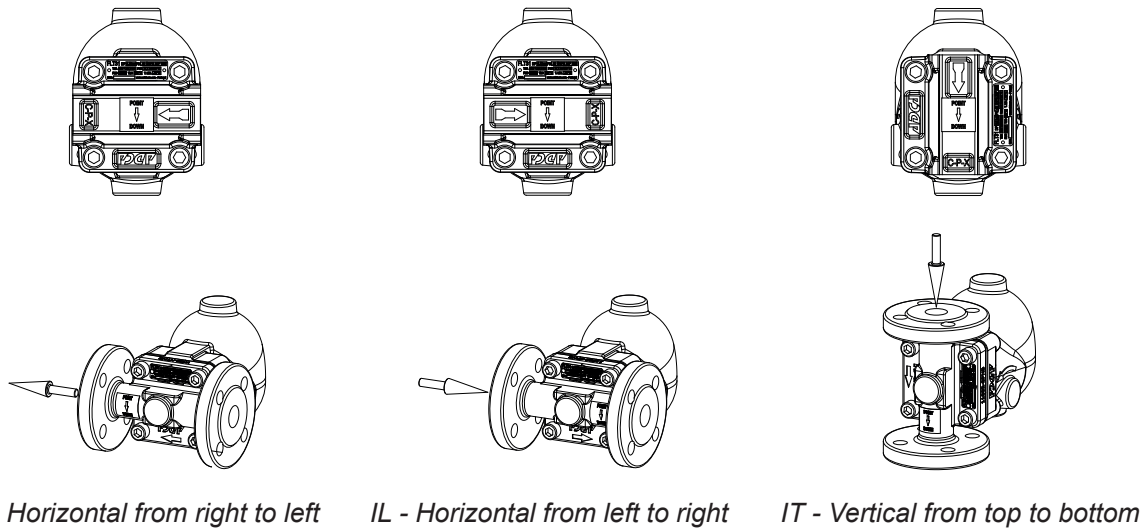
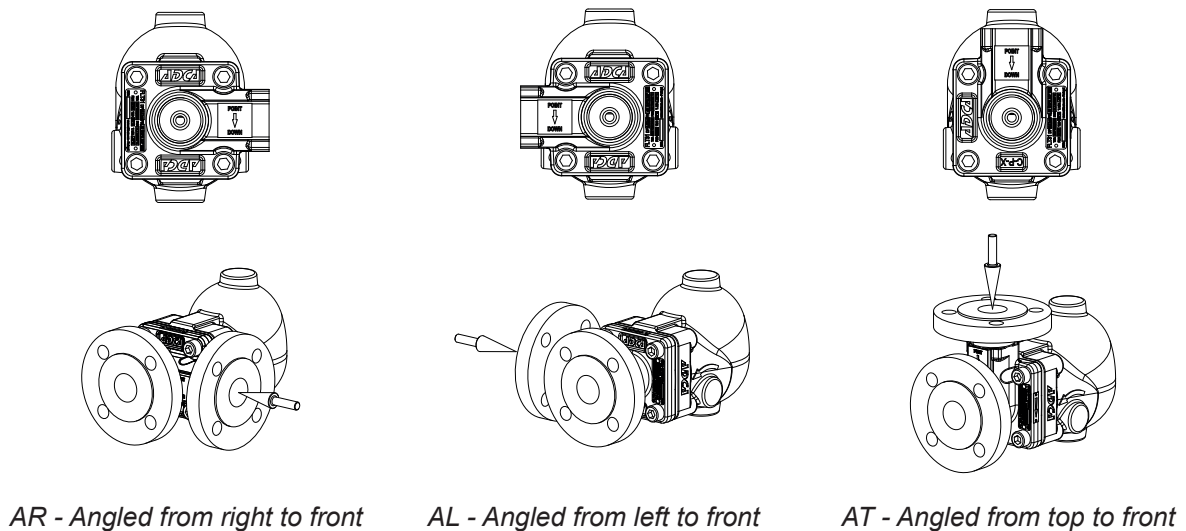

Fig. 2 - Flow direction options for steam traps with inline connections.
Fig. 3 - Flow direction options for steam traps with angled connections.
1. Undo the bolts (10) gradually in a crisscross pattern and separate the cover (2) from the body (1).
2. Remove the body gasket (3) and clean surfaces thoroughly, leaving no remaining graphite leftovers.
3. Unscrew the seat nut (4A), inspect the gasket (5) and replace if necessary.
5. Rotate the body (1) to meet the desired flow direction according to Fig. 2 and Fig. 3, keeping the mechanism assembly (4, 6, 7, 8, 9) with the automatic air vent (9) pointing upwards. Replace the "POINT DOWN" sticker accordingly.
6. Secure the seat (4) and tighten the seat nut (4A) with the recommended torque – see section 9.6 – Tightening torques.
7. Fit a new body gasket (3) and install the cover (2) with the protruding section pointing upwards.
8. Apply a suitable lubricant to the threads of the bolts (10), and tighten gradually in a crisscross pattern until the recommended torque is achieved – see section 9.6 – Tightening torques.
2. The steam trap can be installed in any of the positions shown in Fig. 2 and Fig. 3.